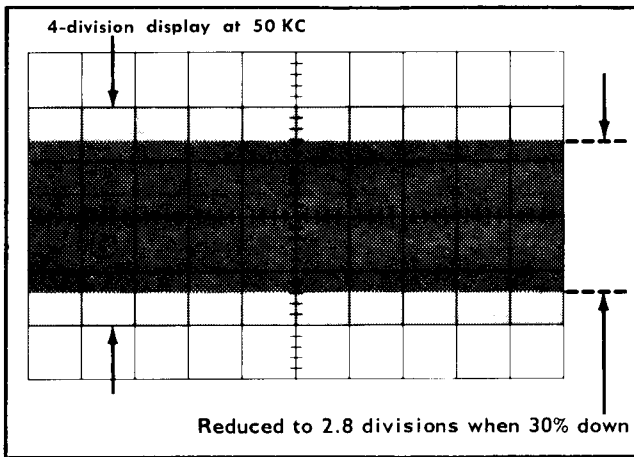

Fig. 5-8. Typical crt display when checking vertical frequency response.
e. Without changing the output amplitude, increase the output frequency until the deflection is reduced to 2.8 divisions (see Fig. 5-8).
j. Without changing the output amplitude, increase the output frequency until the deflection is reduced to 2.8 divisions (see Fig. 5-8).
- o. Without changing the output amplitude, increase the output frequency until the deflection is reduced to 2.8 divisions (see Fig. 5-8).
- t. Without changing the output amplitude, increase the output frequency until the deflection is reduced to 2.8 divisions (see Fig. 5-8).
- y. Without changing the output amplitude, increase the output frequency until the deflection is reduced to 2.8 divisions (see Fig. 5-8).
ad. Without changing the output amplitude, increase the output frequency until the deflection is reduced to 2.8 divisions (see Fig. 5-8).
- e. Without changing the output amplitude, increase the output frequency until the deflection is reduced to 2.8 divisions (see Fig. 5-8).
- j. Without changing the output amplitude, increase the output frequency until the deflection is reduced to 2.8 divisions (see Fig. 5-8).